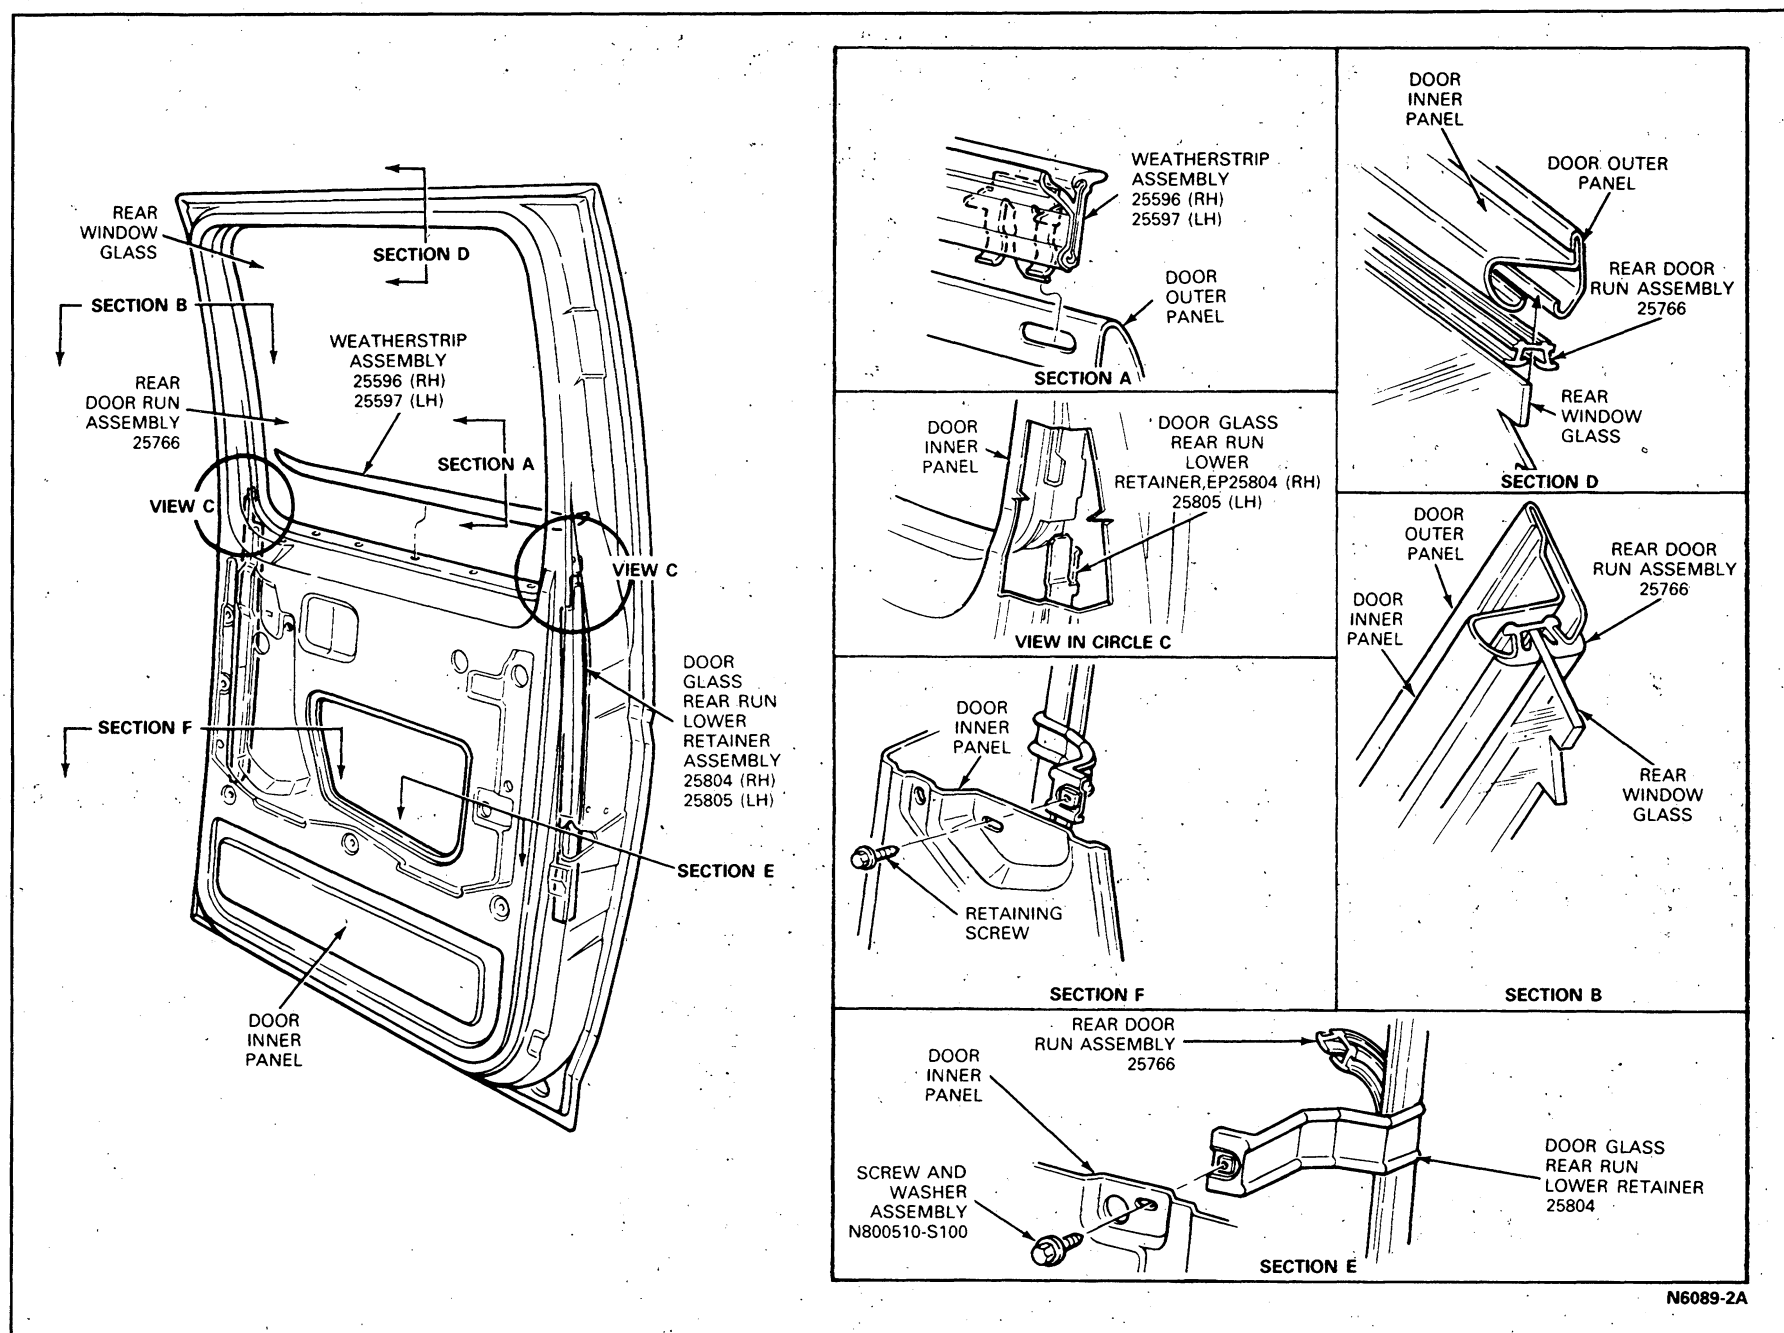

FIG. 1 Crew Cab Rear Door Window, Weatherstrips and Retainers
6. Align movable window into division bar run. Install one screw at top of door and one bolt to front of door to retain division (Figs. 1 and 2) bar. Tighten to specifications.